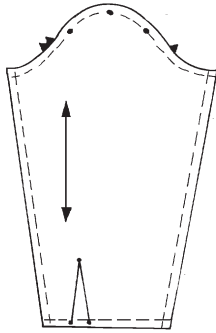

Fig. 11-1
1. Using your pattern tissue as a guide, mark the slash and stitching lines for the sleeve opening. (Fig. 11-1)